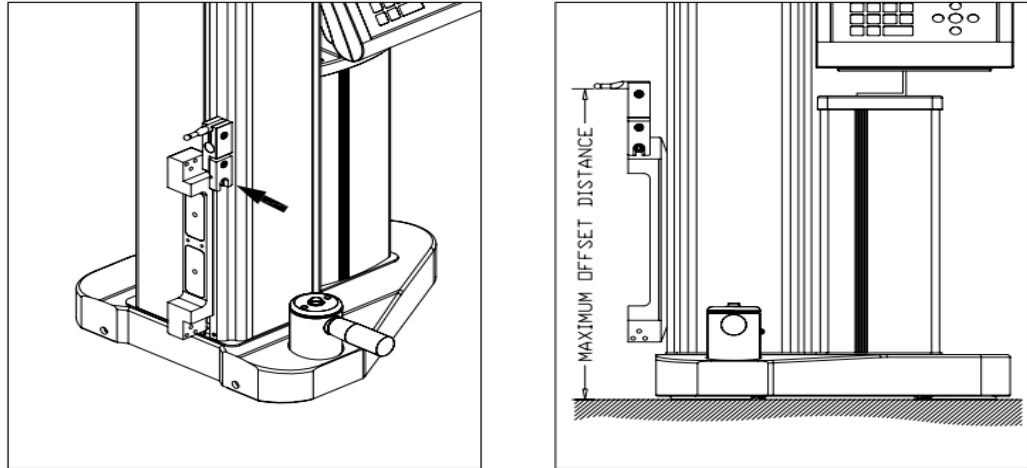

Figure 12
- 5) "Offset" - Offset is a function through which we can expand the measuring range by changing the probe position (see Figure 12). To expand the range a long length slip or a work piece with a known height is required. Place long length slip or work piece on surface plate. Position the probe in reverse conditions in the probe holder. Select the function from the following Contact above, Contact below or previously measured result from memory. After execution of this function "Offset" message will be displayed asking the operator to enter slip or work piece length. Enter the value of slip or work piece & press ENT key to complete the function. The measuring range can be expanded up to 580 / 880